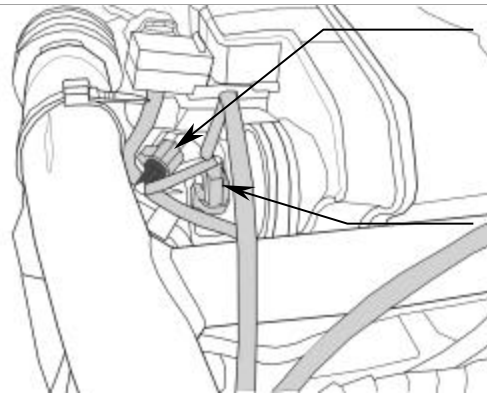
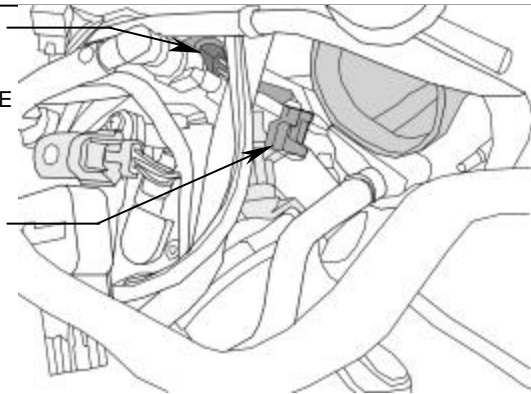

FIGURE 1: LEFT SIDE INJECTOR
FIGURE 2: RIGHT SIDE INJECTOR
3. Unplug the factory fuel injector connector on the right side and attach the matching Fi2000R connector from the longer Fi2000R harness onto the right side injector. Plug the original injector harness connector into the black Fi2000R connector and tuck that connector up and out of the way, so that the air intake boot may be re-installed, see Figure 2. Repeat this procedure for the left side injector, see Figure 1.